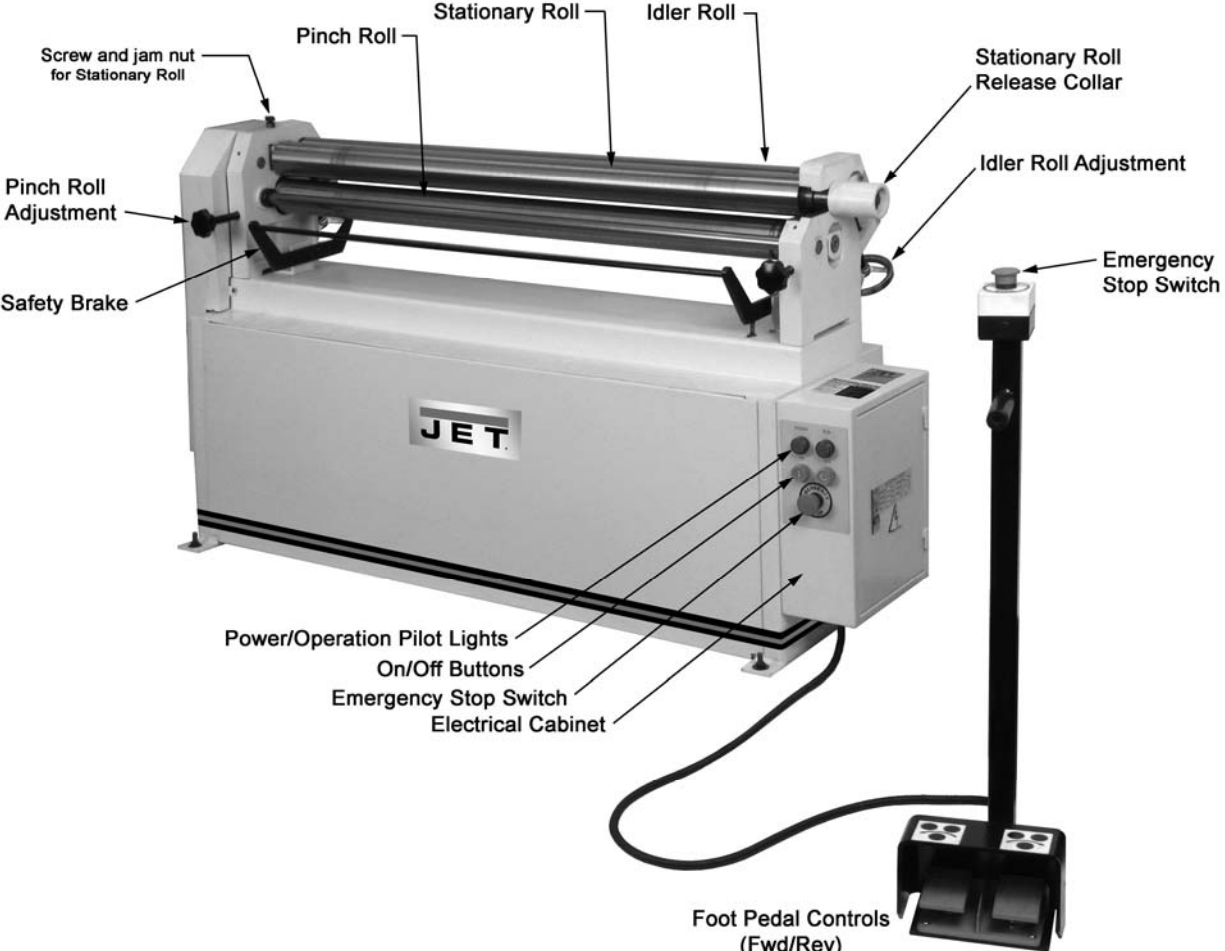

Figure 1 - Features
(Figure 1 identifies machine elements.)
The stationary, or top, roll is secured at its left end to the gear side of the machine with the cap screw and jam nut (see Figure 1). These can be adjusted if needed.
5. Apply a light coat of grease to the pinch roll and idler roll adjustment screws (see Figure 1).